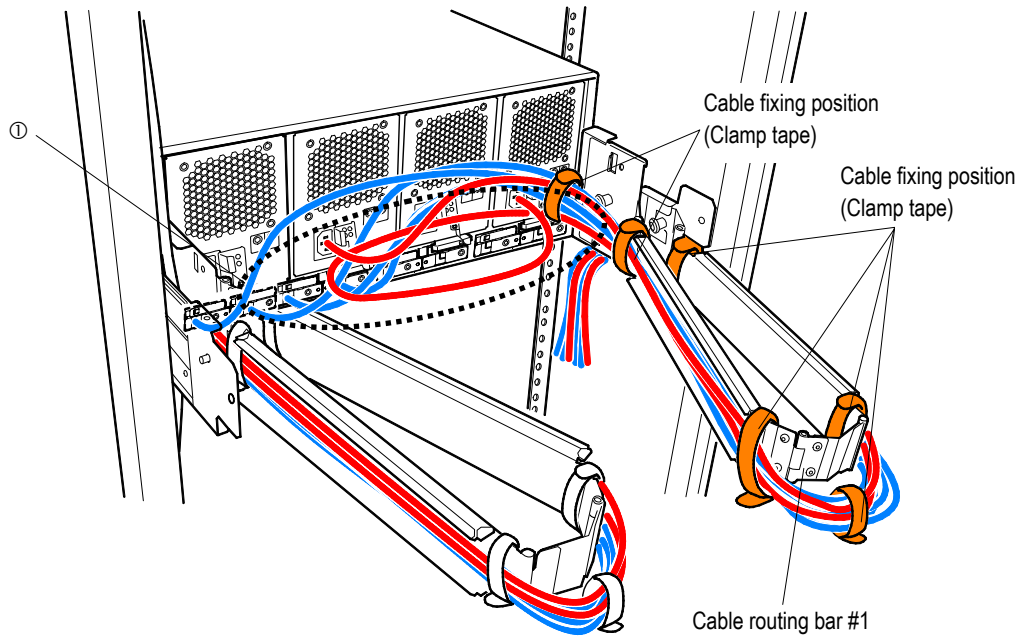

Figure 2.4.88 Fixing the SAS(ENC) Cable #B0, #B1 and Power Cable #B1, #A1
- (b) Route the power cable #A1 as shown in Figure 2.4.88.